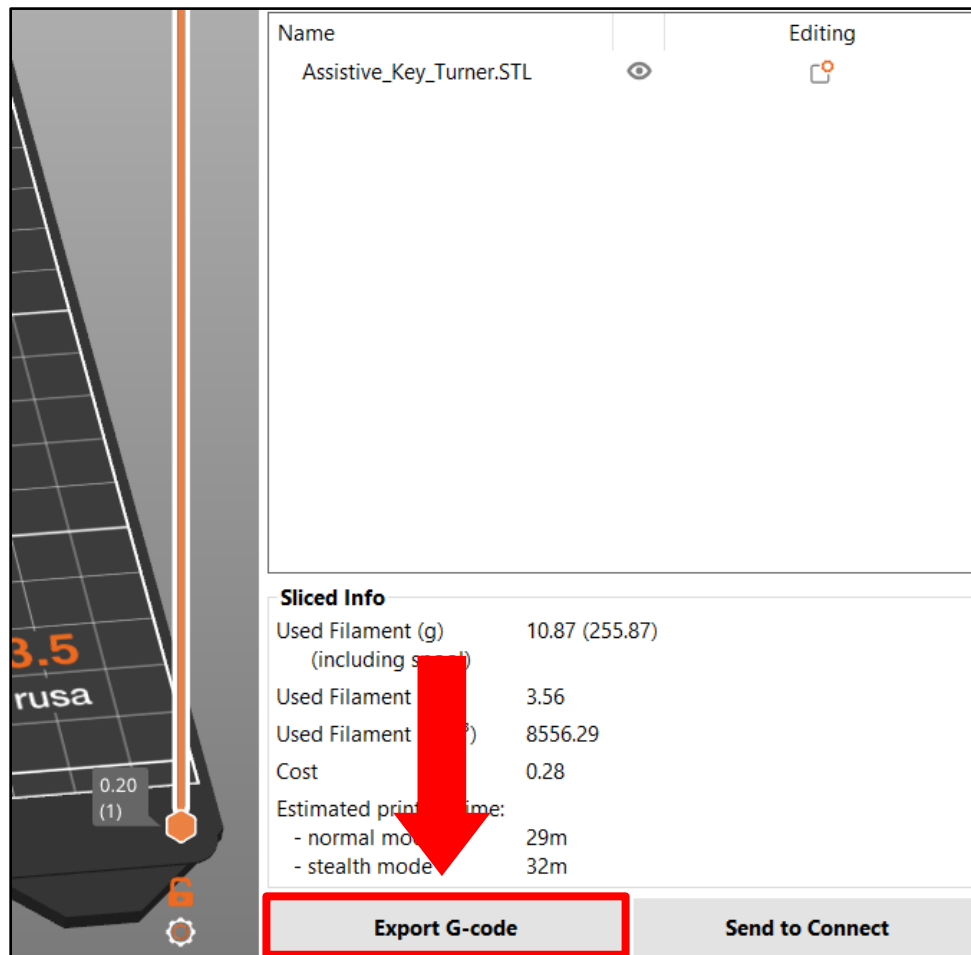

Figure 4. Export G-code Button.
8.) Once the slicing is finished, click “Export G-code” in the bottom right corner of PrusaSlicer (see Figure 4) and save the G-code to a flash drive.